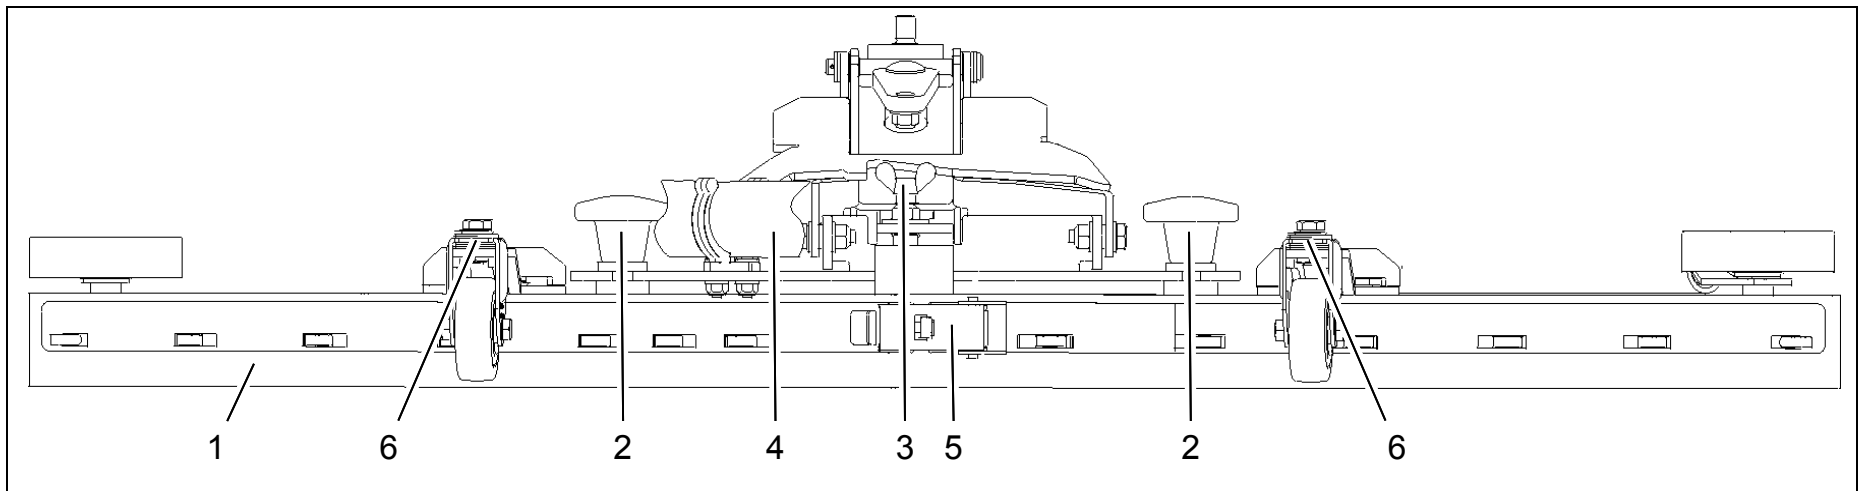

Fig.10
Check the squeegee (Fig. 10/1) daily and clean as necessary.
To clean it lift up the squeegee, pull off the suction hose (Fig. 10/4), loosen the two star-shaped knobs (Fig. 10/2) and remove the squeegee.
Check the inner and outer squeegee blades on the squeegee (Fig. 10/1) weekly for signs of wear. The squeegee blades can be used fourfold by turning them.
3. Unlock the fastening device (Fig. 10/5) and remove the outer squeegee blade. Turn the squeegee blade or install a new one. Change the inner squeegee blade in the same way.
2. Loosen the counternut on the adjusting screw (Fig. 10/3) and adjust the squeegee using the adjusting screw so that the ends of the squeegee blades have contact with the floor.